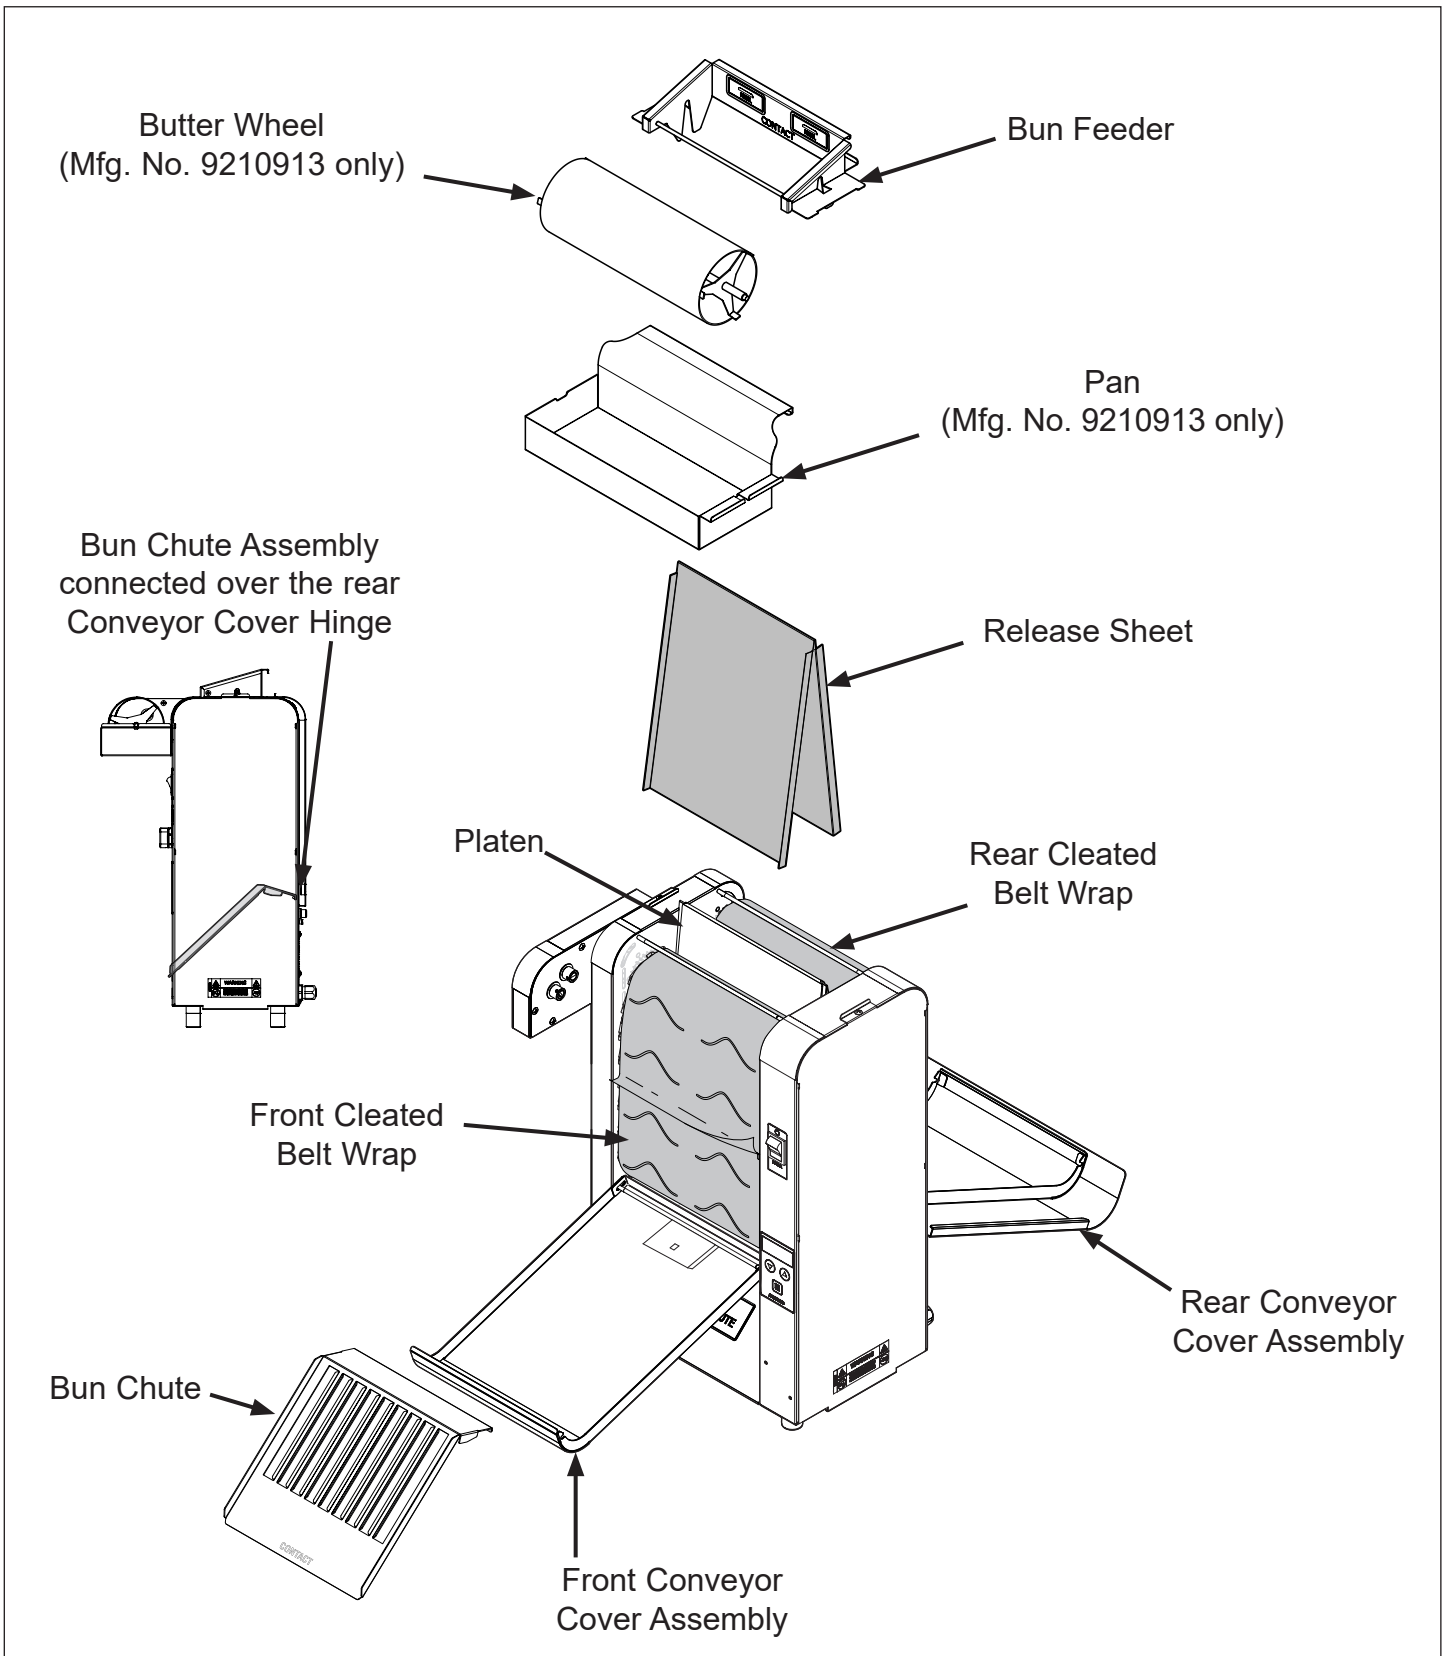

Figure 3. Components
2. Open the included large box. It should contain the following (See Figure 3):
**NOTE:** The factory has pre-installed a Release Sheet over the Platen (Figure 3). Verify that it is properly in place before proceeding.